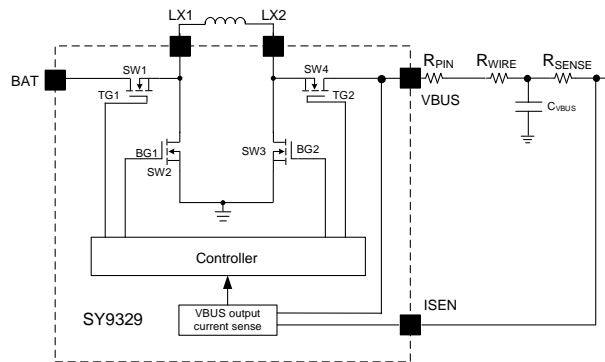

Fig5. Description of VBUS Output Current Limit
The SY9329 provides a function for VBUS output current limit by sensing the voltage drop between VBUS pin and ISEN pin (as shown in fig.5). Once the voltage difference ($V_{VBUS} - V_{ISEN}$) exceeds the voltage threshold, which can be configured by register 0x02[7:5], the internal control loop will regulate the output current by decreasing duty cycle until UVP or OTP is triggered. Noticing that the effects of R_{PIN} and R_{WIRE} cannot be ignored, the actual limit current I_{LIMIT} can be calculated as given in Equation (2):